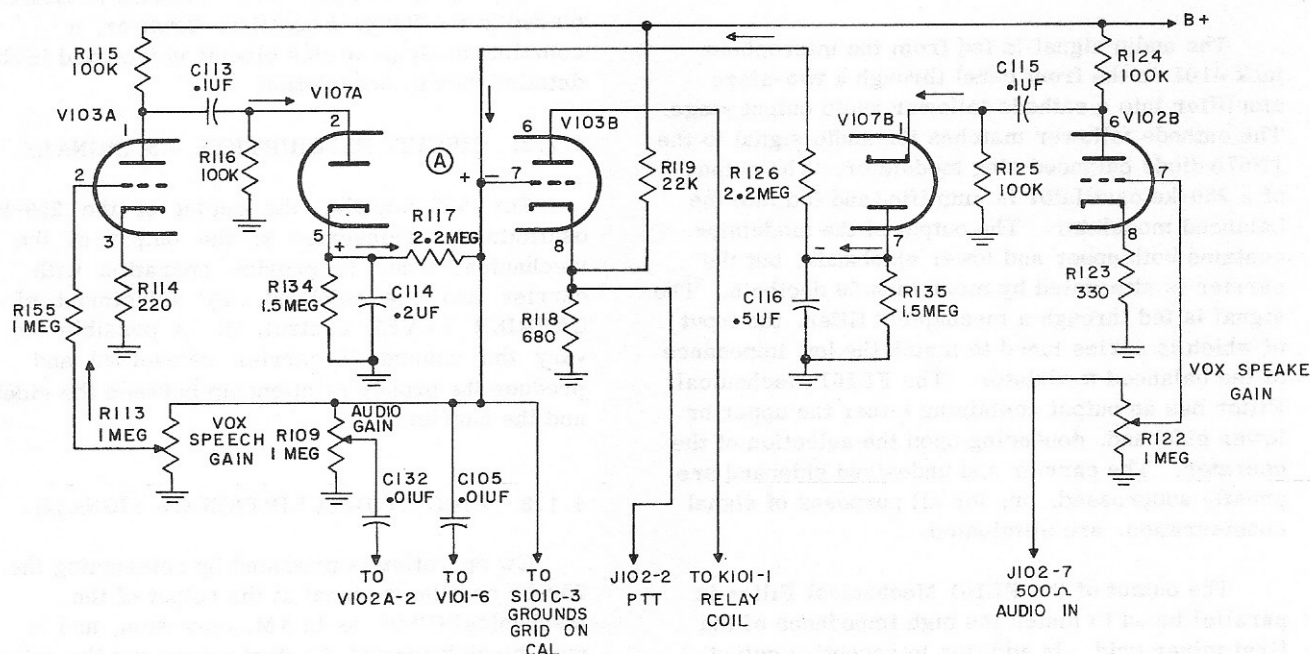

Figure 4-2. VOX Circuits, Simplified Schematic Diagram
Part of the audio output from V101 is taken off the AUDIO GAIN potentiometer R109 and fed through the VOX SPEECH gain control R113 to the control grid of amplifier V103A. Thus, by R113, the amplitude of audio signals applied to V103A is regulated. V103A amplifies the signal, which is then coupled through C113 to rectifier V107A. (See figure 4-2.) This circuit includes the diode d-c return resistance R116, and diode load R134 and
The purpose of squelch amplifier V102B and rectifier V107B is to prevent the audio signals of the receiver from operating K101 relay by feedback of the audio signals through the transmitter microphone and audio circuits. A connection is made to the receiver output transformer, which feeds the speaker audio signals into the transmitter through J102-7, through the VOX SPEAKER gain control R122, to the grid of V102B. At the same time, the same speaker signals are feeding through the transmitter microphone into the VOX amplifier V103A to produce a plus voltage on the V103B grid, to operate relay K101. However, the voltage applied to the V102B squelch circuit is amplified and fed through C115 to the cathode of rectifier V107B. This rectifier circuit is identical to V107A, except V107B is connected in reverse, such that a negative voltage is produced and applied through R126 to the grid of relay amplifier V103B. This occurs at the same time the plus voltage is being applied from V107A, at point (A) in figure 4-2. The plus and minus voltages are adjusted by potentiometers R113 and R122 to a point at which they balance out, preventing the receiver speaker signals from operating the transmitter relay K101.